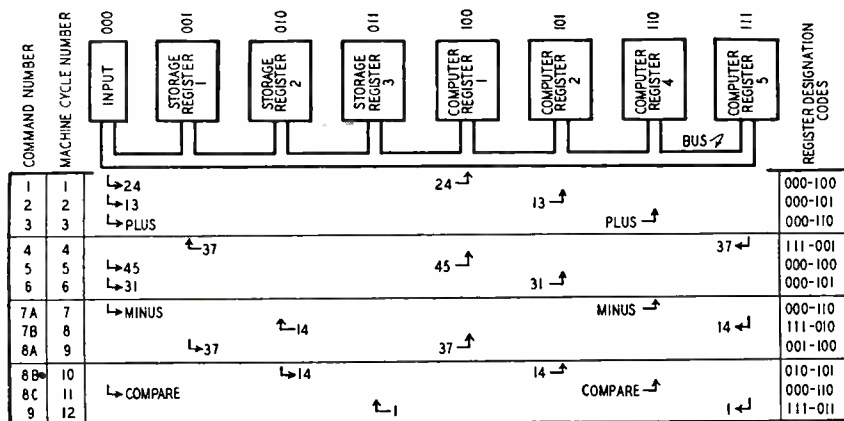

Fig. 1—A diagram showing the flow of information from one register to another in an electric brain in the process of executing a series of commands.
Here is what we do, supposing that we are to give the machine instructions from a tape (see Fig. 1):
- Each of these commands will take place during a complete operating cycle of the machine (see the numbers of the machine cycles in Fig. 1). For each cycle, naturally, the machine requires not only the number and operation
So, for our particular series of commands, we shall suppose that the codes of the registers are 000 to 111 as shown right above them in Fig. 1, and that these codes are also given to the machine, cycle by cycle. The machine is constructed to know that the first code refers to the sending register, and that the second code designates the receiving register.